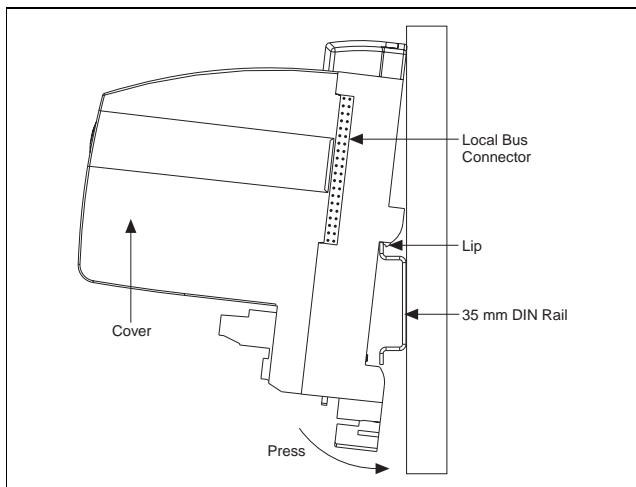

Figure 2. Mounting the FP-3000 onto a DIN Rail
2. Hook the lip on the rear of the FP-3000 onto the top of a 35 mm DIN rail and press the FP-3000 down onto the DIN rail, as shown in Figure 2.